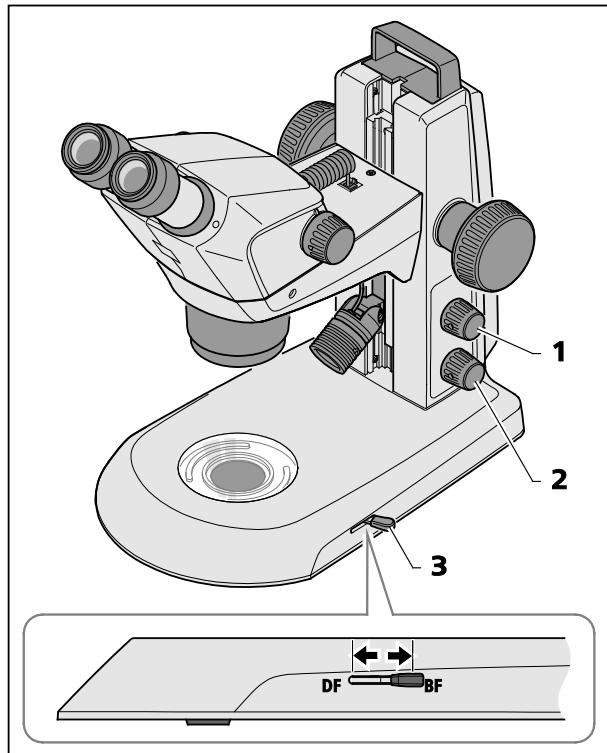

Fig. 25 Transmitted-light module in stand K EDU
- Switch transmitted-light illumination ON by pressing the lower knob (Fig. 25/2).
- Change over by adjusting the lever (Fig. 25/3) between the bright field and the dark field illumination.
- Front position: Dark field (DF)
- Rear position: Bright field (BF)
Press the upper knob (Fig. 25/1) to blend in reflected light (see section 4.2 on page 24).